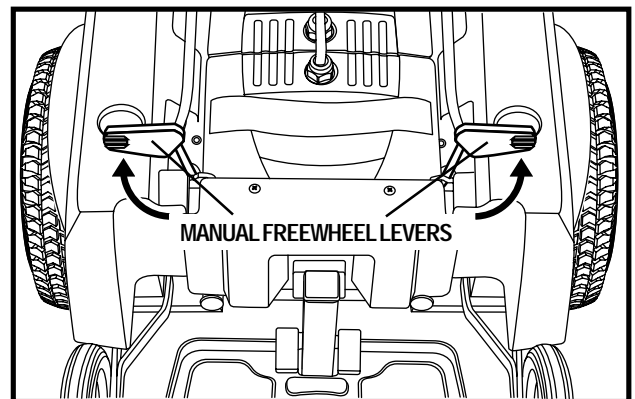

Figure 9. Freewheel Mode
2. Rotate the manual freewheel levers outward to disengage the drive motors and place your power chair in freewheel mode. See figure 9.